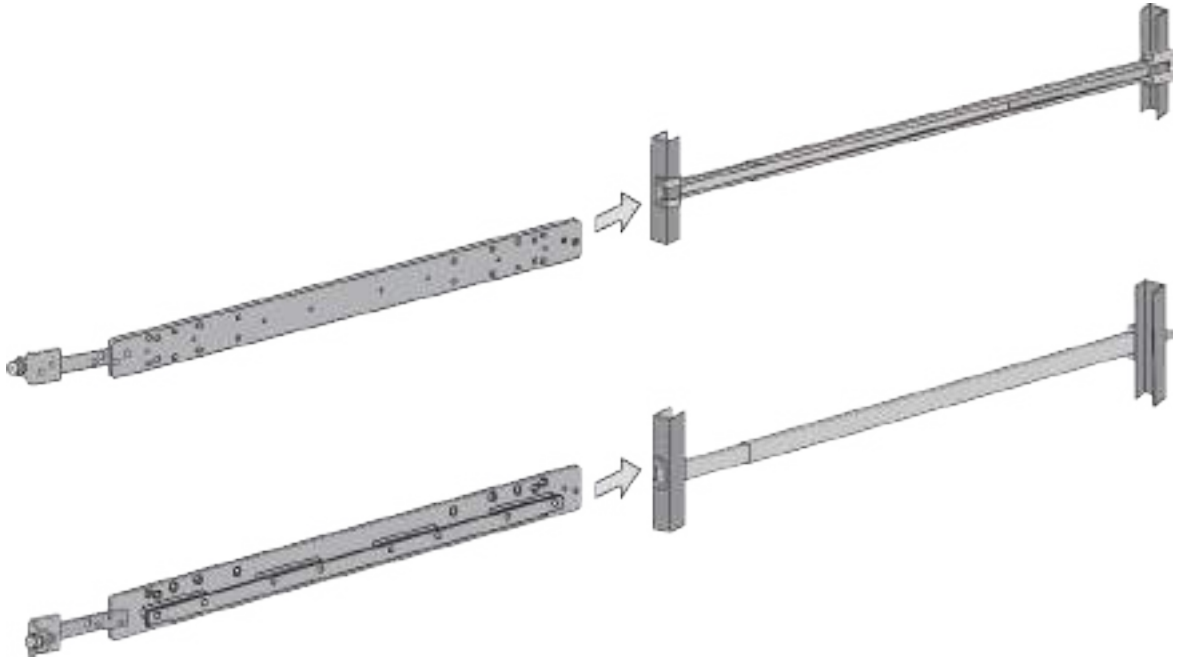

Figure 93. Testing the Inner Rails with the Extension Brackets
4. To test the lengths of the extension brackets, slide the inner rails into the outer rails in the equipment rack. Refer to Figure 93.